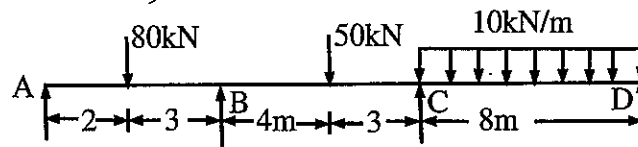

Fig. 5
Q.2 Using theorem of three moments, solve the continuous beam shown in Fig. 5. Plot the bending moment diagram.